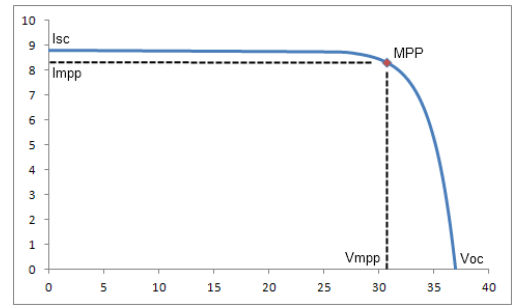

fig. 4 – 3
- Figure 4 - 4 shows the “welcome screen”.
- In the photovoltaic simulation the parameters for the photovoltaic simulation can be configured. The application also renders the photovoltaic curve calculated with the entered values. It reads the voltage and current measurements of the power supply and displays these in the graph. Figure 4 - 5 shows the “Photovoltaic Simulation” application.